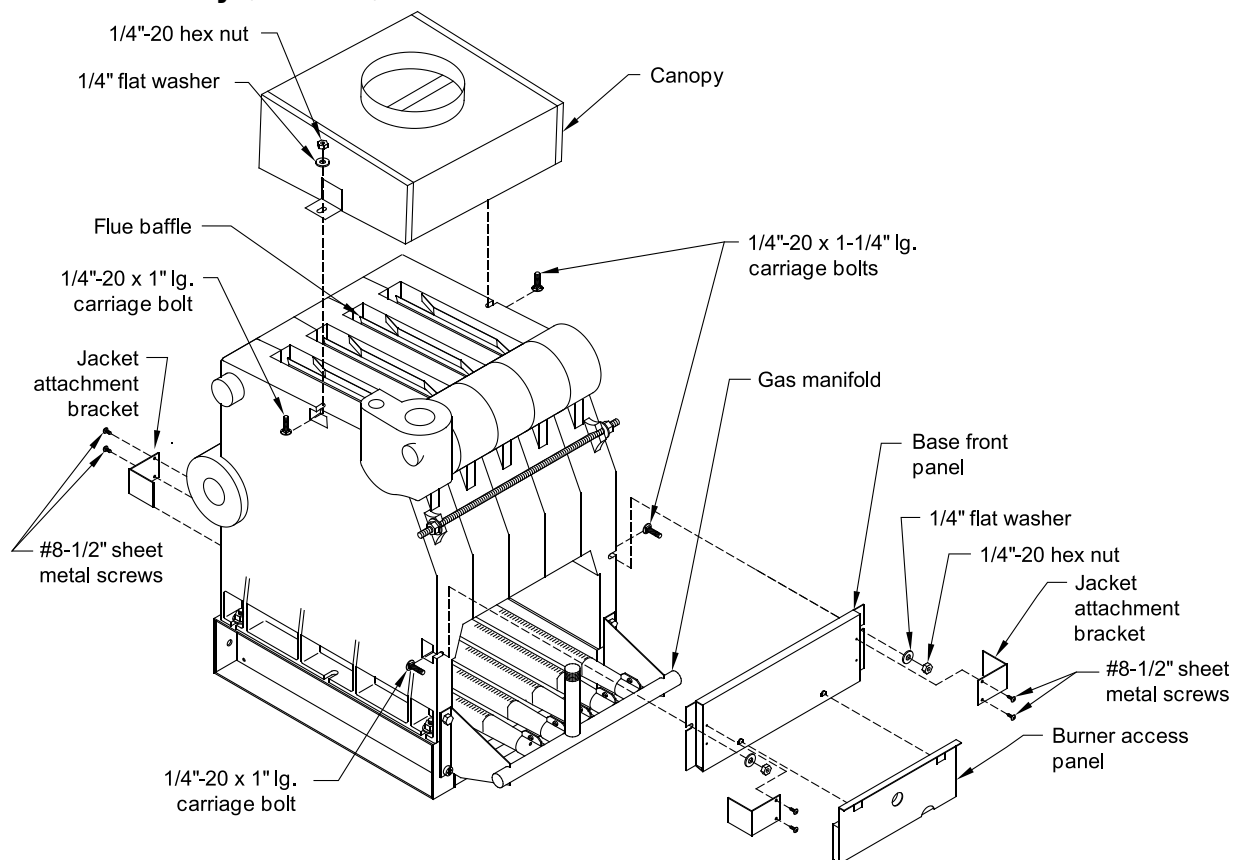

Figure 2-5: General Assembly (Knockdown Boilers)
- G. Confirm that one (1) Flue Baffle is properly positioned in each Boiler Flueway. Tabs at the top of each Flue Baffle should be resting on top row of Flue Pins on each adjoining section.
- H. Install Canopy on section assembly. See Figure 2-5. Canopy and hardware are located in Combination Boiler Parts and Control Carton.
- J. Install Base Front Panel. See Figure 2-5. Panel and hardware located in Combination Boiler Parts and Control Carton.
1. Locate four (4) Jacket Attachment Brackets in Combination Boiler Parts and Control Carton. Attach to Front Base Panel and Rear Base Panels with #8 sheet metal screws. See Figure 2-5.
4. Attach Upper Rear Panel to Lower Rear Panel. Do not install three (3) upper screws.